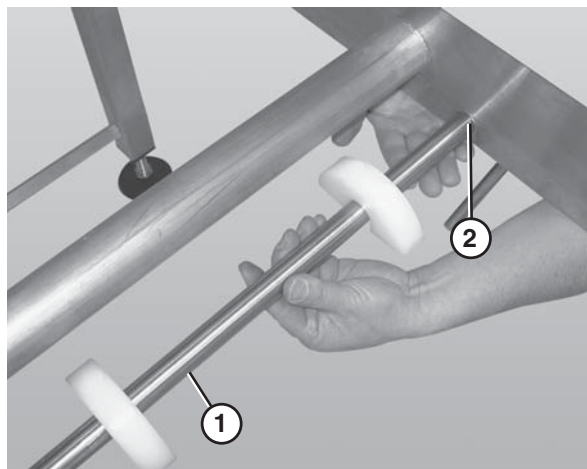

Figure 49
1. Remove the belt returns by pushing up on the return shaft (**Figure 49, item 1**) and sliding it through the large hole (**Figure 49, item 2**) in the frame.
2. Lower the opposite end of the return shaft (**Figure 49, item 1**) and slide it out of the frame.